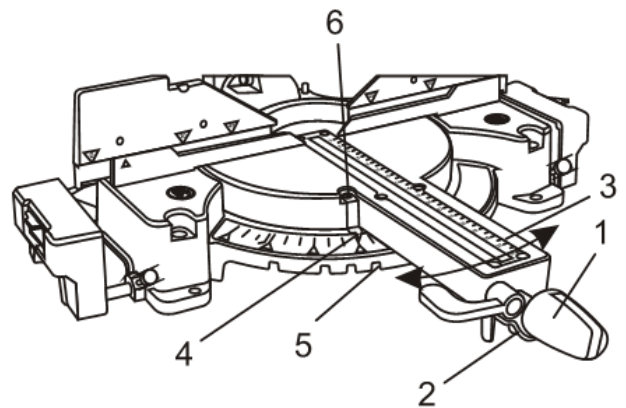

Fig. 7
1. Turn the mitre locking knob (1) counter clockwise 2 turns (Fig. 7).
2. Squeeze the mitre detent locking lever (2) and move the mitre arm (3) left or right until the 0° pointer (4) lines up with the 0° line on the scale.
3. Release the mitre detent locking lever and once again move the mitre arm back and forth until the detent lock drops into the matching notch (5) in the bottom of the base.
4. If the 0° pointer is not aligned directly with the 0° line on the scale, use a #2 \oplus screwdriver (not provided) to loosen the pointer screw (6).